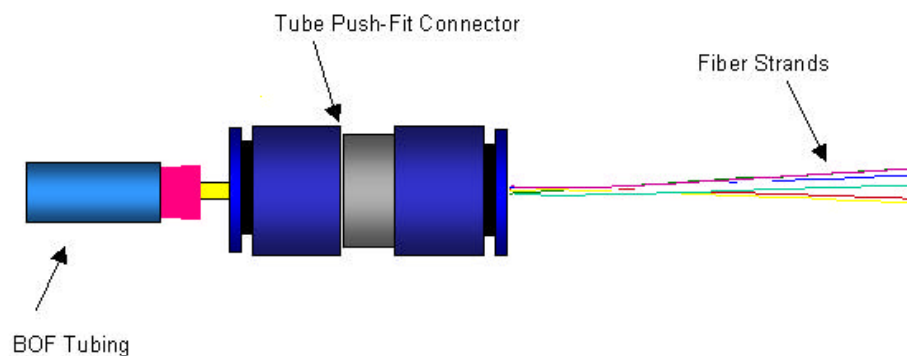

FIGURE 1. Insertion of tube plug around BOF
- c. Press the plug into the BOF tube (see Figure 1).